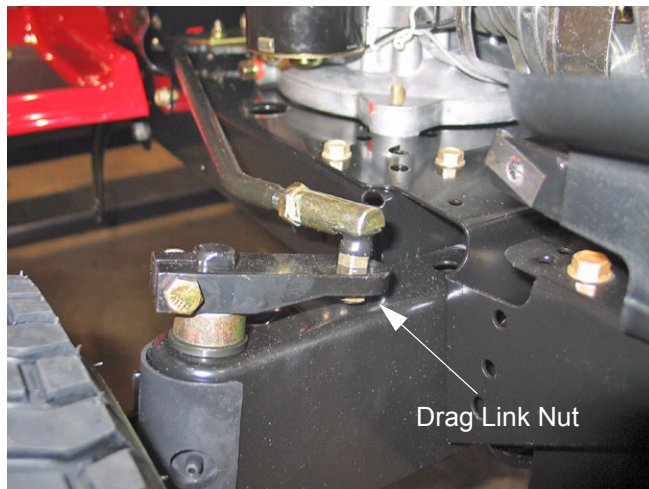

Figure 60
- 15.9. Using a 1/2" wrench on the top and a 9/16" wrench on the bottom, remove the nut securing the drag link to the steering arm. See Figure 60.